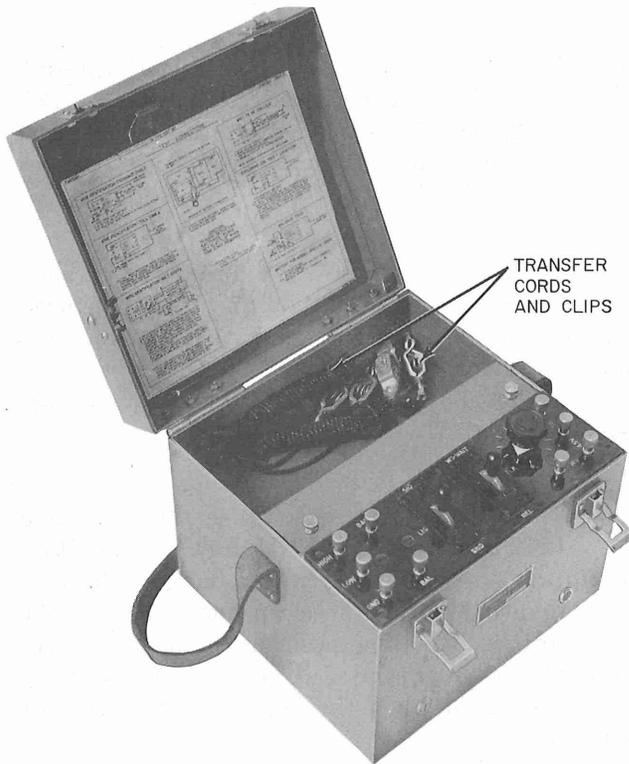

Fig. 1—76-Type Test Set
2.02 The 76-type test set (Fig. 1) is housed in a stamped sheet metal box with a removable hinge cover. It is furnished with two 6-foot transfer cords with insulation piercing clips at one end and battery clips at the other end.